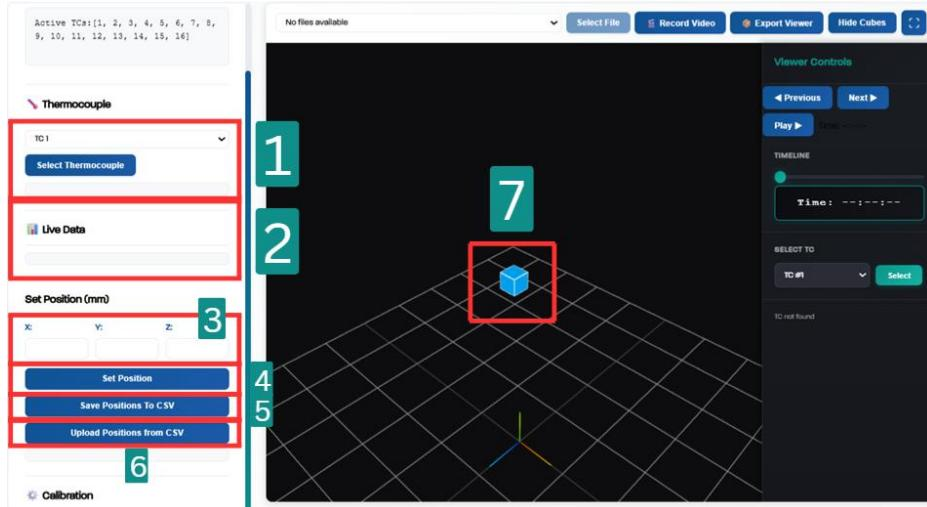

Figure 26: General layout of browser.
- Click the drop down shown near label 1 in Figure 26 and click **Select Thermocouple**.
- Hover and click a thermocouple cube shown in near label 7 Figure 26.